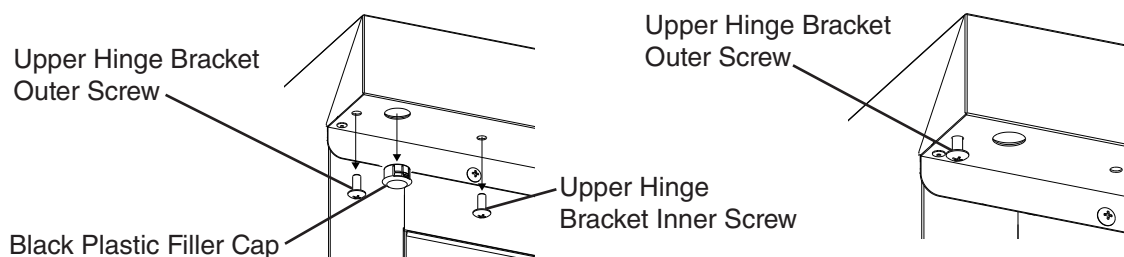

**Fig. 30**
- 15) Remove the upper hinge bracket screws from the new location and apply Loctite Threadlocker Blue 242 or 243 to the threads. Next, start the upper hinge bracket outer screw into the appliance. Rotate a few threads into the appliance; do not tighten the screw. See Fig. 30.